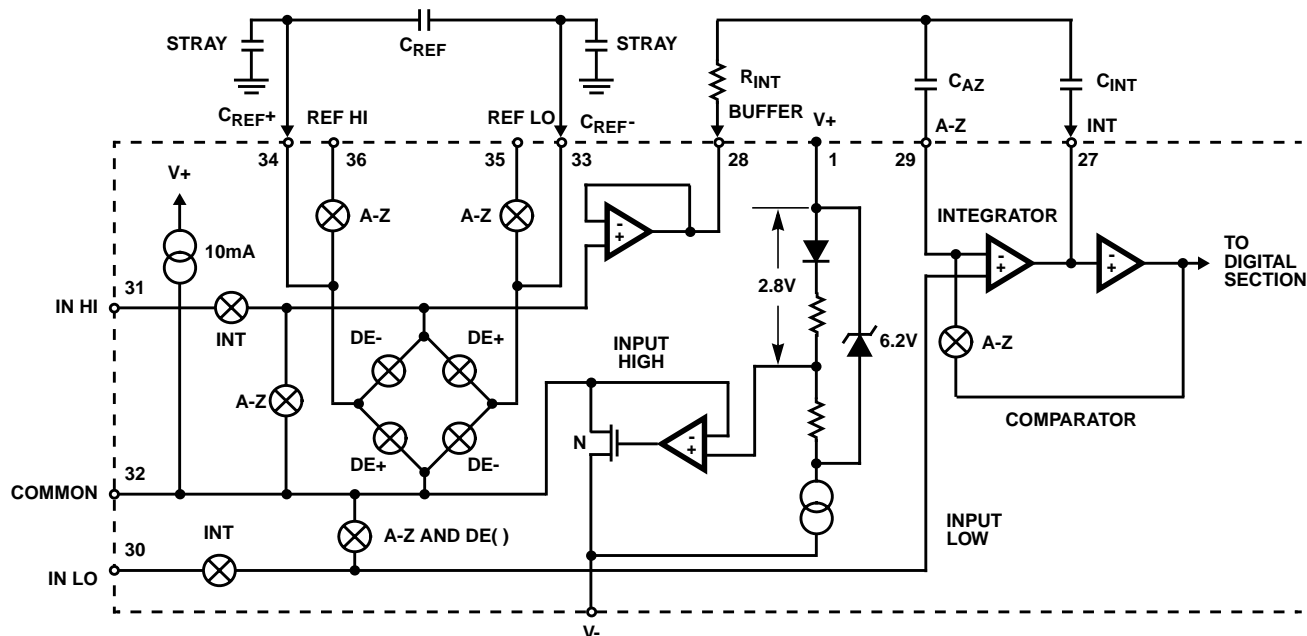

FIGURE 2. ANALOG SECTION OF HI7106
Figure 2 shows the Analog Section for the HI7106. Each measurement cycle is divided into three phases. They are (1) auto-zero (A-Z), (2) signal integrate (INT) and (3) de-integrate (DE).